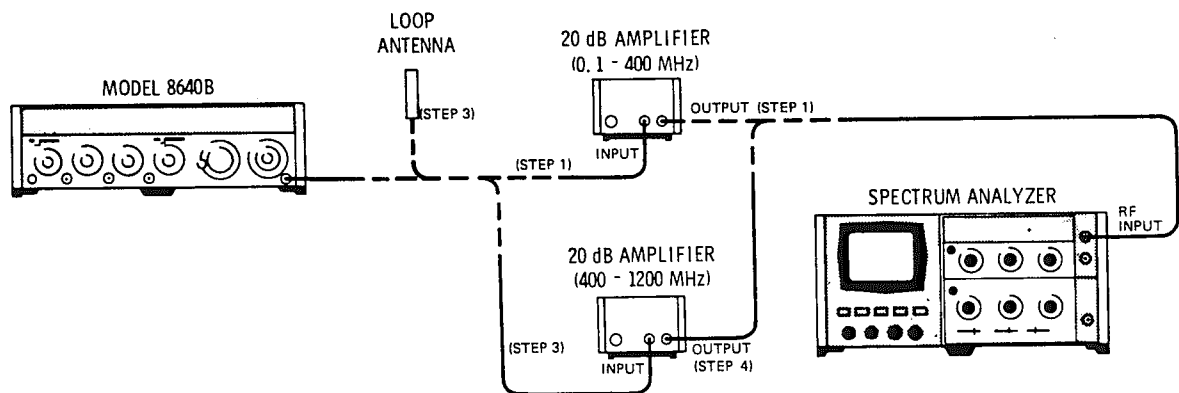

Figure 4-15. Output Leakage Test Setup
1. Connect equipment as shown in Figure 4-15 (with Signal Generator connected to spectrum analyzer through 0.5 - 400 MHz amplifier) after setting Signal Generator's controls as follows: